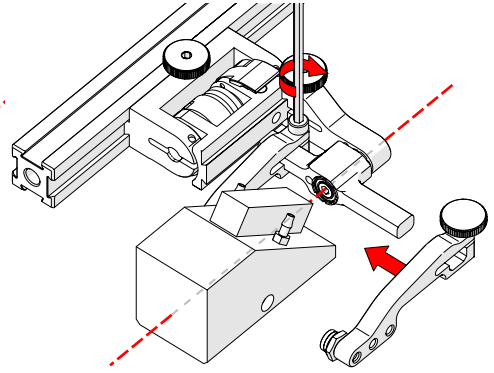

Fig. 193 - Place wedge
**TIP:** The probe holder yoke can accommodate many different probe and wedge sizes of varying widths. It is best to centre the wedge with the yoke's pivot axis to reduce wedge tipping when scanning. Position the inner probe holder arm accordingly with the centre of the yoke (Fig. 193).
7. Position the wedge on the inner probe holder arm (Fig. 193).